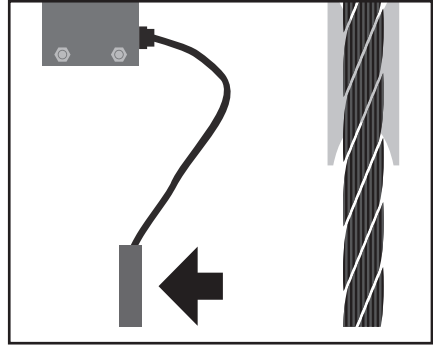

Fig. 21
2. Lead cable upwards via cable duct (Fig. 21).